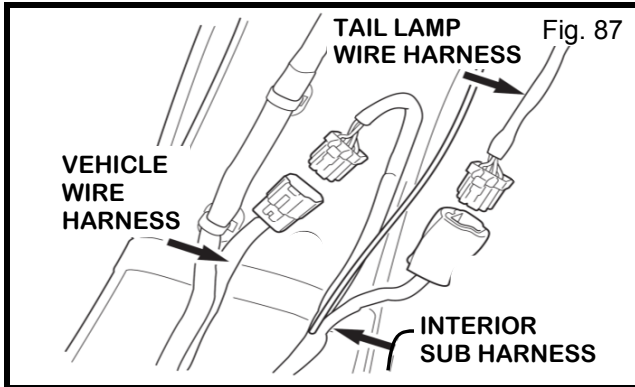

Fig. 87
a) Install interior trailer harness inline with vehicle harness as shown in Fig. 87.